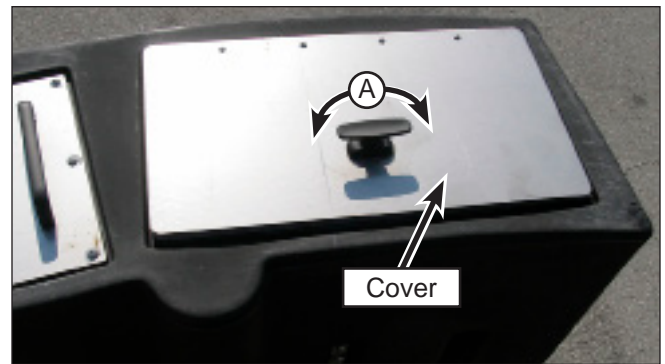

Figure 36: Filter Cover
1. Rotate the handle (Figure 36, A) on the filter cover (Figure 36) and swing the cover open.